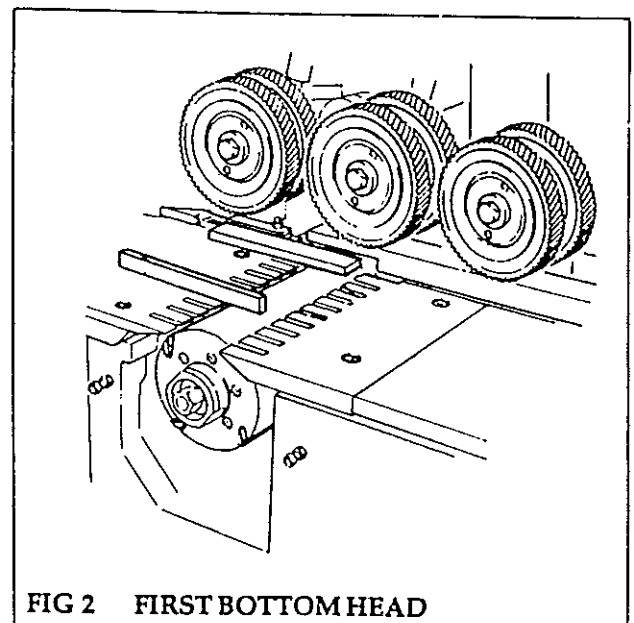

FIG 2 FIRST BOTTOM HEAD
First Bottom Head (Figs 2, 3.)
(3) Place a straightedge on the outfeed table projecting over the bottom horizontal cutterblock (fig 2). The cutter blades should just touch the underside of the straightedge.
(5) Place a straightedge against the outfeed fence and check the fence and edge reference cutter are in line (if fitted), ie. just touching the straightedge, (fig 2). Adjust the fence. If necessary, adjust the cutter spindle laterally as follows: